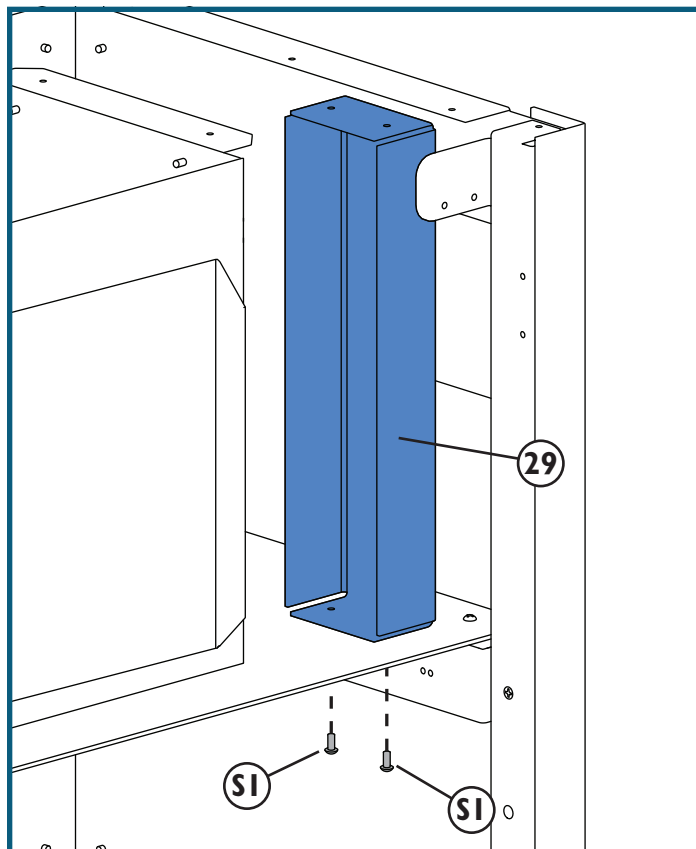

Fig. 18
1. Attach the Safety Power Tool Switch to the outside face of the Switch Bracket (29).
3. Fit the Switch Bracket (29) and attached Safety Power Tool Switch into the Cabinet so that the Switch face extends through the opening in the side.
4. Align the mounting holes in the bottom flange of the Switch Bracket (29) with the holes in the Middle Shelf (15). Attach with two M4 x 3/8" Pan-Head Self-Tapping Screws (S1) up through the Middle Shelf. (You will secure the Switch Bracket at the top when you attach the Cabinet Top (31) later.) **Fig. 18.**